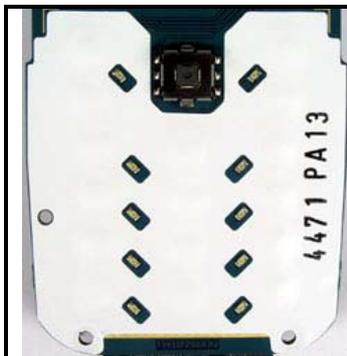

Fig. 7.7
- Check if the dome switch foil (Fig. 7.7) is mechanical damaged, dirty or oxidized. Replace it if necessary.